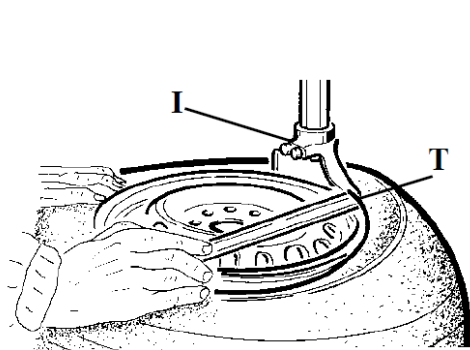

Fig. 16
- Return the arm (P) by pressing the pedal (H).
- Set the locking button (K) in position 2. Move the operating arm (M) until the mounting tool (I) rests on the rim upper edge. Then lock everything by setting the locking button in position 1. In this way, the arm gets locked both in a vertical and in a horizontal direction, while the mounting tool (I) is moved automatically of about 2 mm. from rim.
- With the lever (T) inserted between the bead and the front section of the mounting head (I), move the tyre bead over the mounting head.
**Note:** In order to avoid damaging the inner tube, if there is one, it is advisable to carry out this operation with the valve about 10 cm right of the mounting head. (Fig. 16).